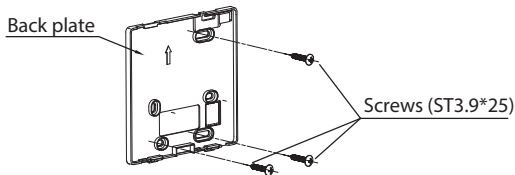

Fig 3-3
- For exposed mounting, fasten the back plate on the wall with the 3 screws (ST3.9\*25) and plugs. (Fig.3-3)